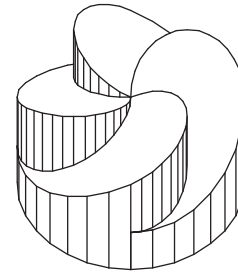
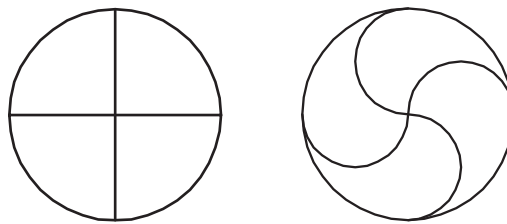

Fig. 10-7
Fig. 10-8
3. Draw the top view of the video game part shown in Fig. 10-7. Start by drawing a circle of any size at any location. Then use the **Quadrant** and **Center** object snaps to draw the four lines to divide the circle into quadrants, as shown on the left in Fig. 10-8. (You must draw four lines, not two.) Use the **ARC** command with the **Start, Center, End** option and **Quadrant, Midpoint**, and **Center** object snap modes to draw the arcs. Erase the quadrant lines. Save the drawing as **gamepart.dwg**.